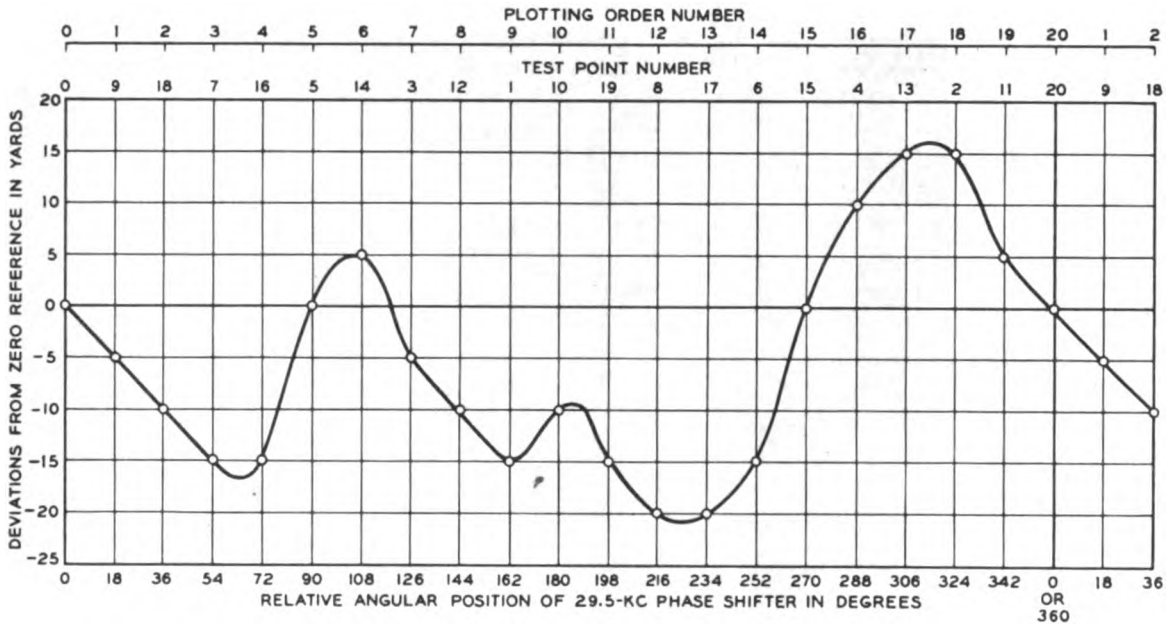
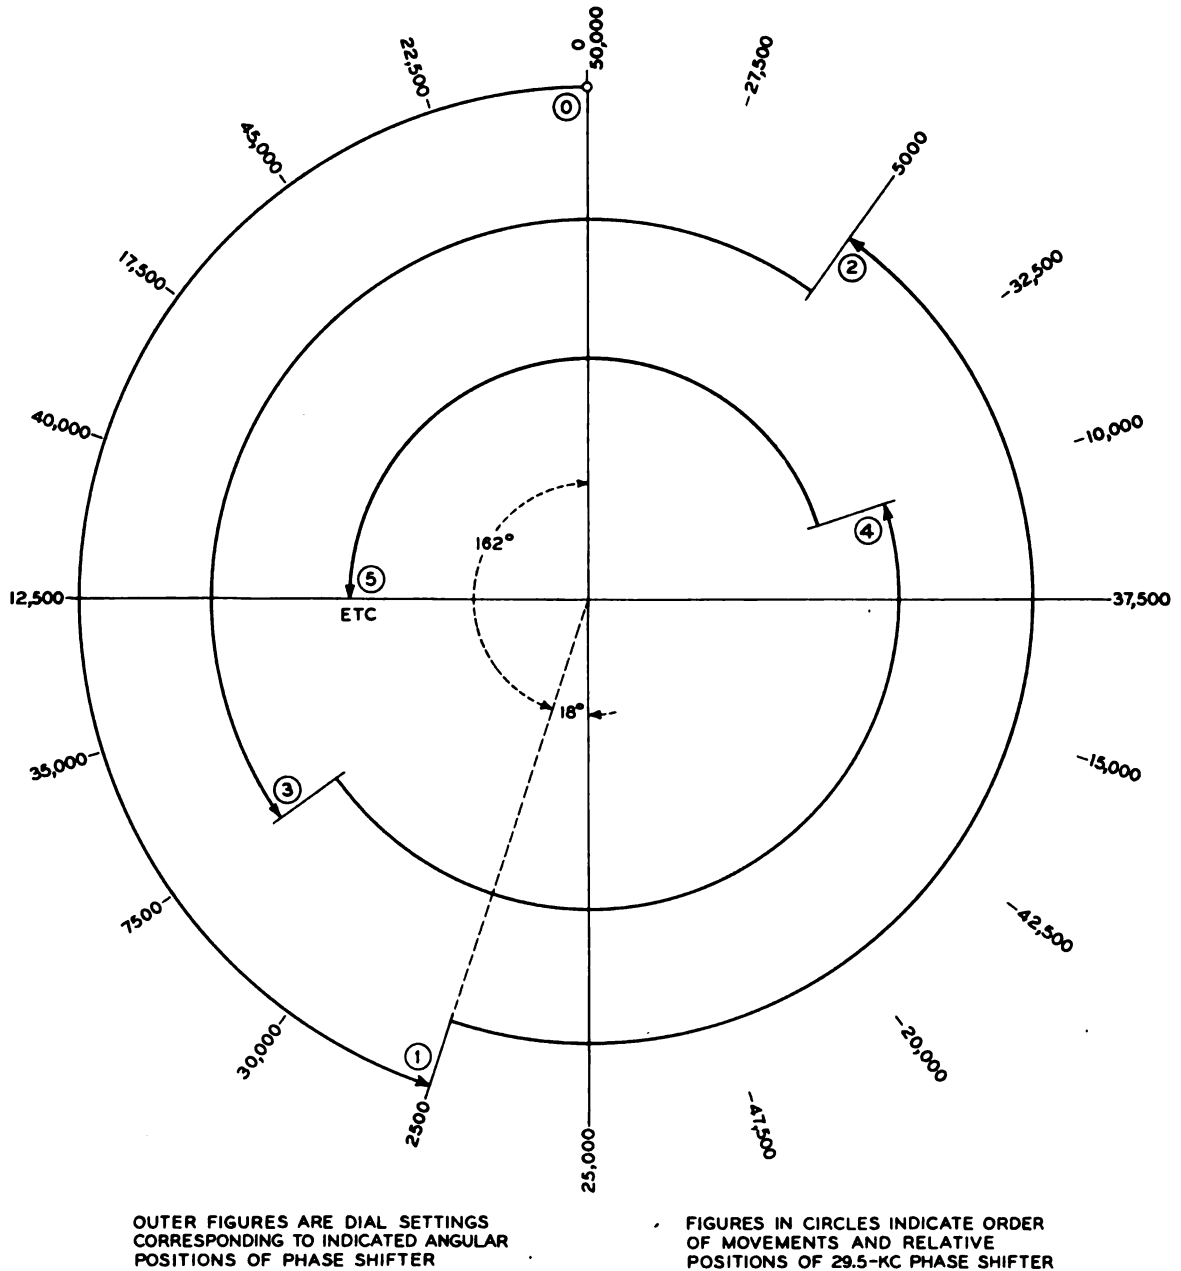

FIG. 8. PLOT OF TYPICAL CALIBRATION DEVIATIONS
FIG. 20. CALIBRATION PROCEDURE
(7) The data may be plotted, if desired, as shown on Fig. 8. It will be noted that the data is plotted thereon not in the order of the "Test Point Number," but in the sequence of angular positions occupied by the 29.5-kc range unit phase shifting capacitor at the Test Points. This will be clear when it is remembered that the capacitor goes through nine revolutions for a dial change of 50,000 yards, and the significance of any deviation for a particular capacitor position is best shown in relation to deviations for adjacent positions, thus giving a continuous deviation picture for a complete revolution. This is explained further in Section III.
(8) If the arithmetic sum of the maximum minus deviation and the maximum plus deviation is less than 100 yards, the range unit calibration may be considered satisfactory.
29.5-kc phase shifting capacitor only. Any position of the capacitor may be set as 0000 yards on the dials by the range unit ZERO ADJ clutch. For that reason the deviations are significant only in their relation to each other, and not in their relation to either the dial reading or the zero axis as shown in Fig. 8.
(6) Covering the dial range from 50,000 to 100,000 yards would recheck the points determined in the calibration from 0 to 50,000 yards.
(7) The above procedure is diagrammed in Fig. 20 and listed in Table I, where the "Test Point" number refers to the order of successive ninth "collapses"; the "Dial Scale" column indicates the nominal and indicated readings, and the deviations, for the test points; the "Total Angular Movement of Phase Shifter" is the angular travel required to reach the test point; the "Relative Angular Position" is the position occupied with respect to the starting position, being the "Total Angular Movement" less the whole rotations in multiples of 360 degrees; and the "Order of Angular Progression" indicates the sequence of test points if data for consecutive angular positions is to be inspected or plotted. Fig. 8 illustrates the plotting of calibration data.
Note 2. A typical set of deviations is plotted on Fig. 8. The test point and plotting order sequences are shown diagrammatically on Fig. 20.